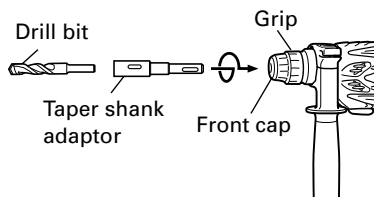
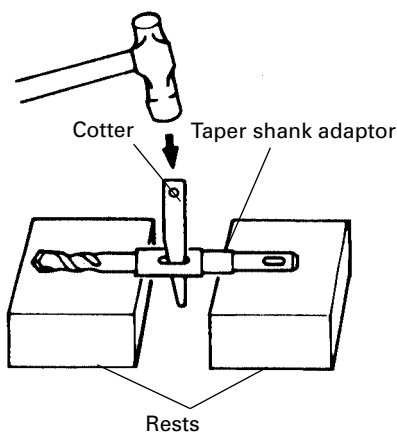

Fig. 13
Fig. 14
- (1) Mount the taper shank adaptor to the rotary hammer (Fig. 13).
- (2) Mount the drill bit (taper shank) to the taper shank adaptor (Fig. 13).
- (3) Turn the switch ON, and drill a hole in prescribed depth.
- (4) To remove the drill bit (taper shank), insert the cotter into the slot of the taper shank adaptor and strike the head of the cotter with a hammer supporting on the rests (Fig. 14).